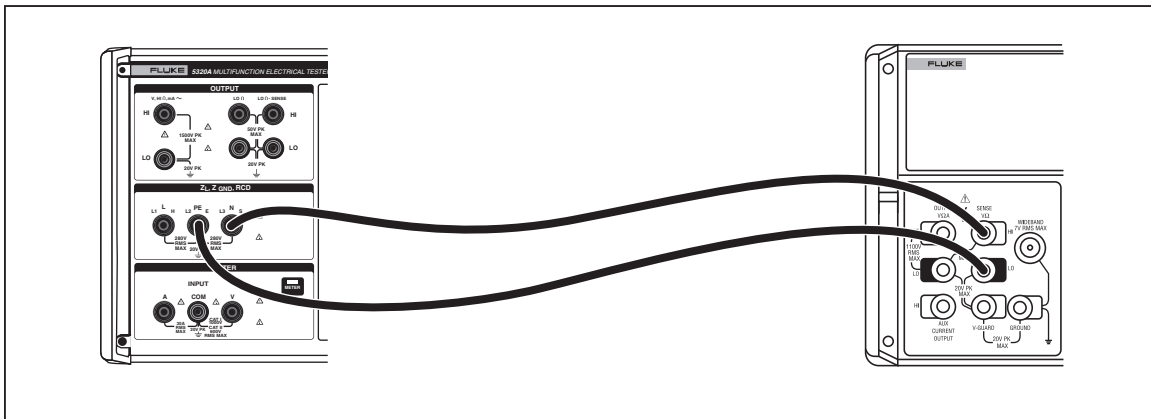

Figure 6-8. RCD Trip Current Calibration Connections
- Connect the Calibrator to the multifunction calibrator as shown in Figure 6-8.
1. Connect the Calibrator to the multifunction calibrator as shown in Figure 6-8.